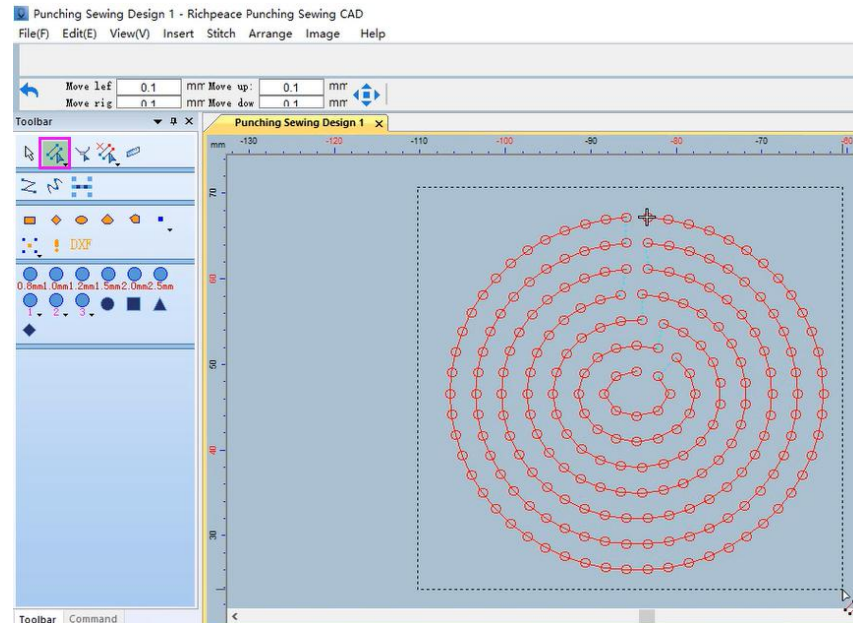

图 1 Picture1
Step 4: Use the tool on the left toolbar to move the left mouse button to select the graphics, and then release the left mouse button after selecting (as shown in Figure 1). Or click the small triangle in the lower right corner to check "Polyline", use the polyline method to select, and then press "Enter" to confirm. (Figure 2).